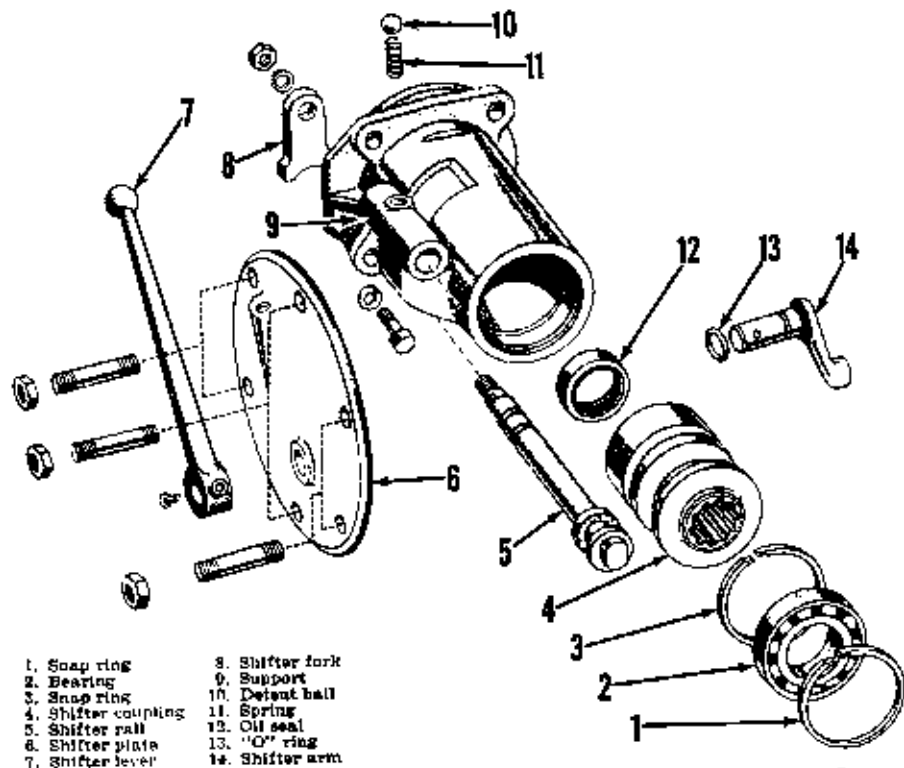

Fig. FO62—Exploded view of pto shifter mechanism and front bearing support. Support (9) also functions as transmission countershaft rear bearing support.
97. Except for renewing seal (12—Fig. FO62) or support (9), the PTO shifter unit can be serviced without removing the support from rear face of transmission. To remove bearing (2), remove snap ring and pull bearing from support. To remove shifter collar (4), first remove hex nut from